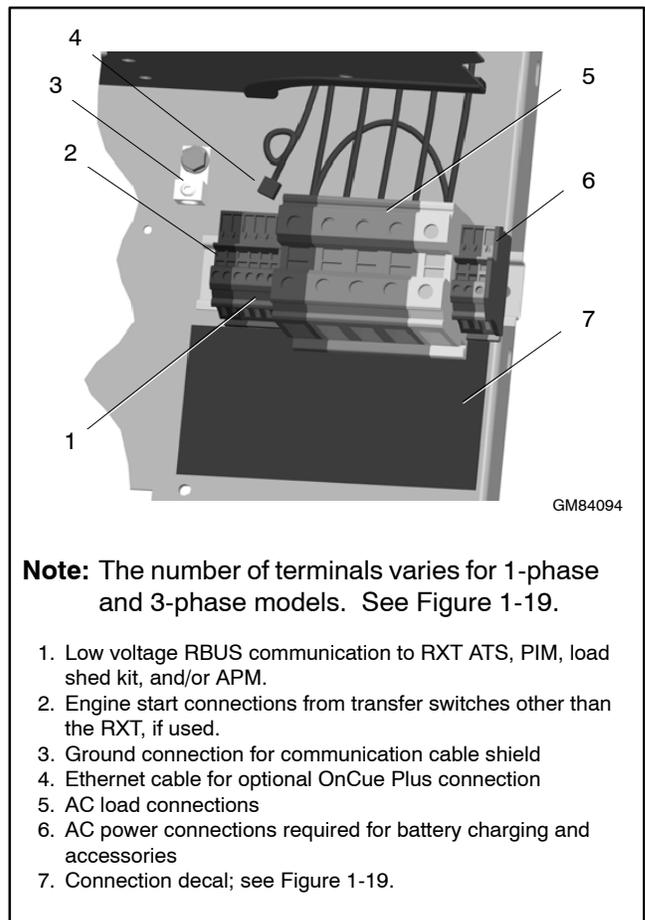
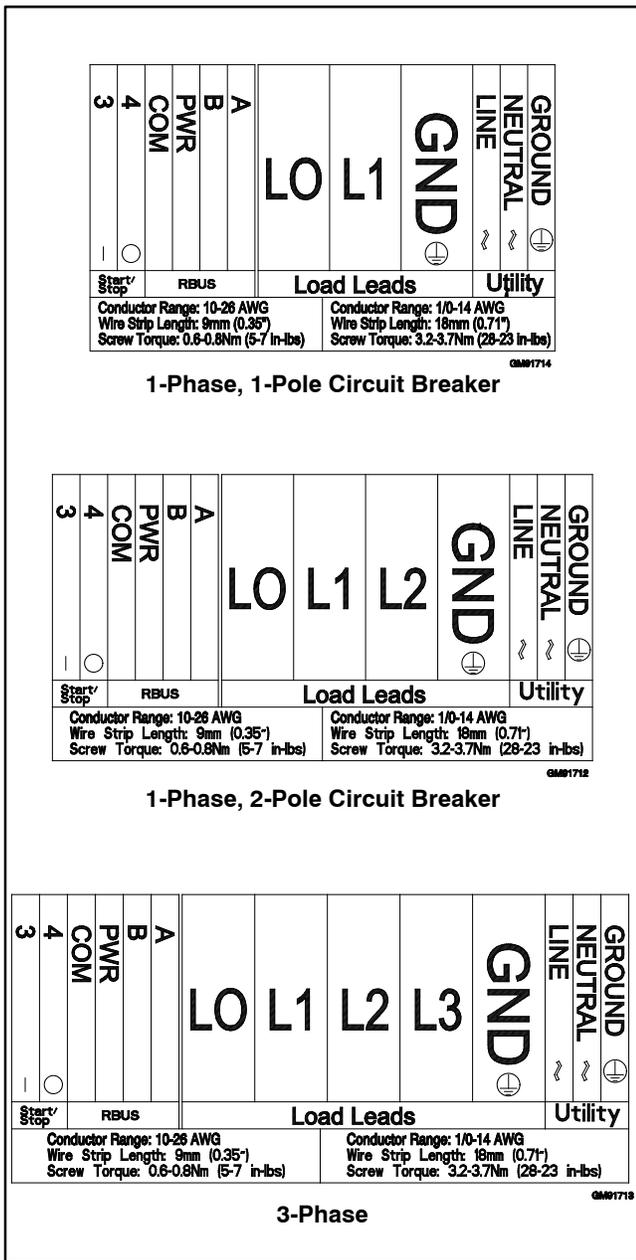

Figure 1-18 Field Connection Terminal Blocks
Figure 1-19 Terminal Block Connection Decals
See Figure 1-18 for terminal block details. Refer to the terminal block decal shown in Figure 1-19 for connections and cable sizes. Also see the wiring diagram in Section 3.
2. Connect the leads from the transfer switch emergency source lugs to the L1, L2, and L3 connections on the generator set terminal block as applicable for single or three-phase applications. See Figure 1-18 and Figure 1-19.
Note: The ground lug near the terminal block (item 3 in Figure 1-18) is used to connect the shield on the communication cable for the accessories.
- b. Use an RJ45 inline coupler to connect the Ethernet cable to the cable in the customer connection box. See Figure 1-18. The inline coupler is included with the OnCue Plus kit.
Be sure to disconnect power at the distribution panel before making the connections. Connect power leads to the AC power connection points labeled LINE, NEUTRAL, and GROUND on the field-connection terminal block. Connect the circuit to the load side of the transfer switch so that it is backed up by the generator. See Figure 1-18 and the wiring diagrams in Section 3 for connection details.